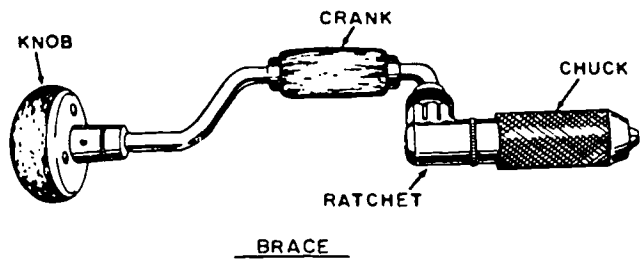

Figure 1-24. Typical brace and bit.
e. Brace and bit. The brace and bit illustrated in figure 1-24 is representative of the drills used by the installer specialist. You will use many types of bits, up to 24-inch lengths, to drill holes in walls, floors, etc.